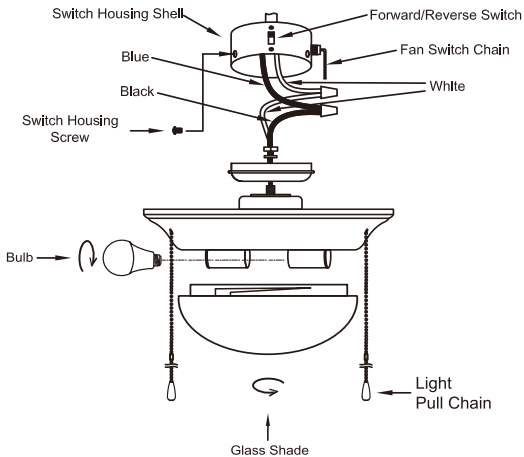

Fig.15
Depending on which model of Heitage Square you are installing, you will either have the one Light (fig.15). Please follow instructions under the correct light.
Remove switch housing screws. Press fixture up into switch housing shell, aligning screw holes. Insert (3) screws and tighten firmly (see fig.15).